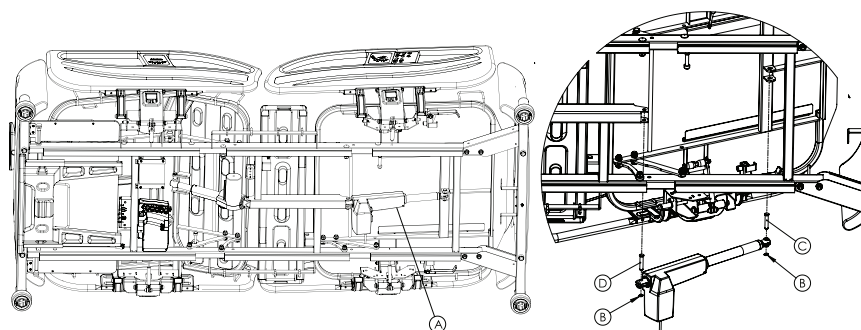

Figure 2: Fowler (backrest) actuator
6. Using snap ring pliers, remove and discard the retaining ring (B) (Figure 2 on page 48) on each clevis pin.
7. Using one hand, support the fowler (backrest) actuator (A) and remove the head end clevis pin (C) (Figure 2 on page 48) and allow the fowler (backrest) actuator to pivot down.
8. Using one hand, support the fowler (backrest) actuator and remove the foot end clevis pin (D) (Figure 2 on page 48) and lower the fowler (backrest) actuator down.